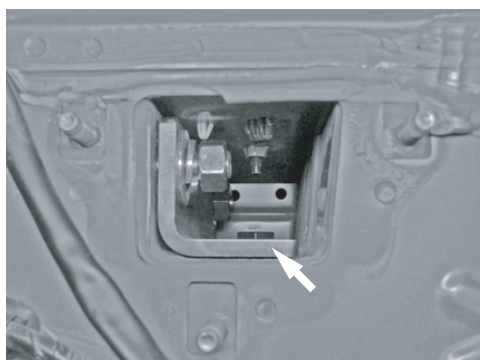

Figure 4: Insert LHS chassis insert.
4. Insert LHS Chassis Insert in to the LHS chassis rail and align with holes in the chassis rail. Refer to figure 4.